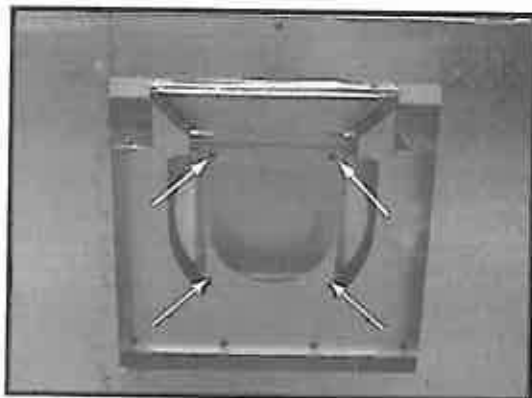

Figure 12 - Remove Inner Cover Plate
8. Remove four screws holding the inner cover plate to the appliance back. See Figure 12. Remove the inner cover and white gasket.